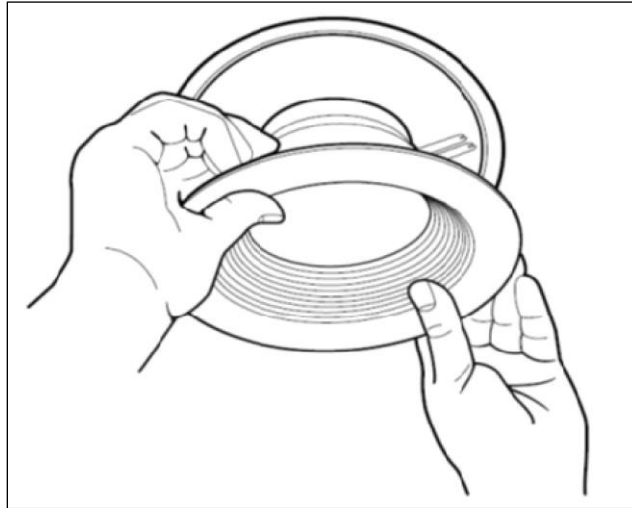

Figure 7
- Center the 4BEMW/4SEMW in the housing opening and gently push the module up into the housing evenly on all sides until flush with ceiling (see *Figure 7*)